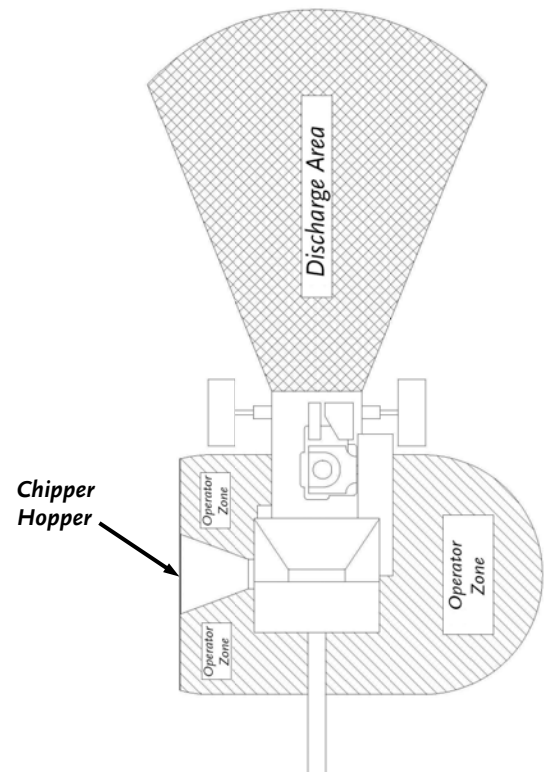

Figure 11
- ALWAYS operate the DR CHIPPER/SHREDDER from the Operator Zones (**Figure 11**).